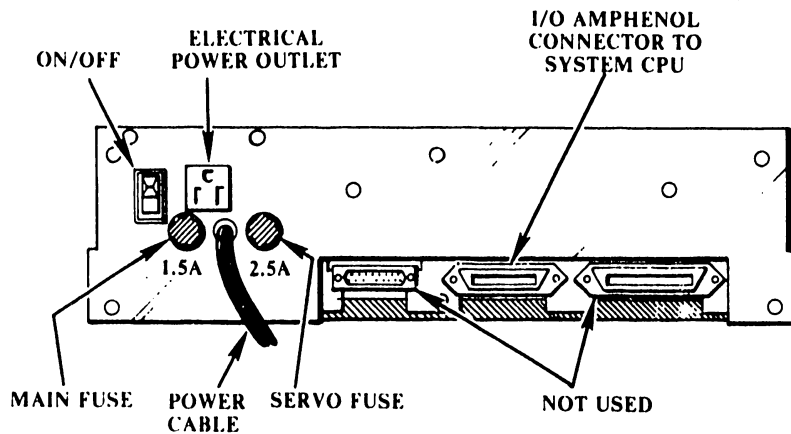

FIGURE 2-3 REAR PANEL
- 2) The 36-pin I/O cable connector must be plugged into the I/O Amphenol connector on the rear panel (See Figure 2-3). The other end plugs into the system CPU.
- 1) Set the ON/OFF switch on the rear panel (see Figure 2-3) to ON.
- 1) **POWER lamp:** The POWER lamp illuminates and the alarm tone sounds when power is turned on by the ON/OFF switch on rear panel (see Figure 2-3).
3.1.2 REAR PANEL (REFER TO FIGURE 2-3)